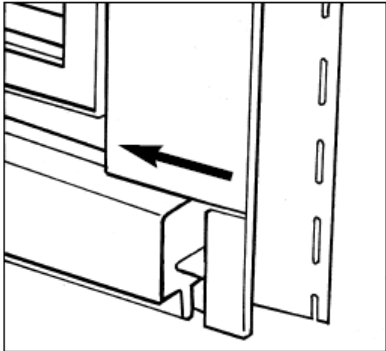

Figure 8
- 7) Install the side lineal sliding the face of the lineal into the J slot of the *Sill lineal*. (Figure 8 & 9)